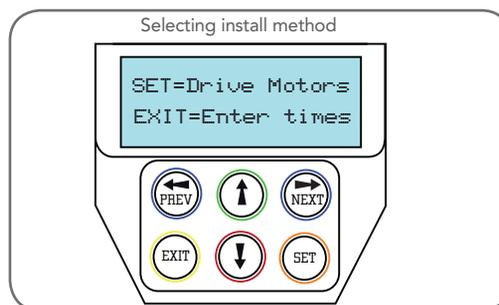

Fig H.7
- DCB-05V2 will now prompt for the setup procedure to be selected. There are 2 methods (**Fig. H.7**);